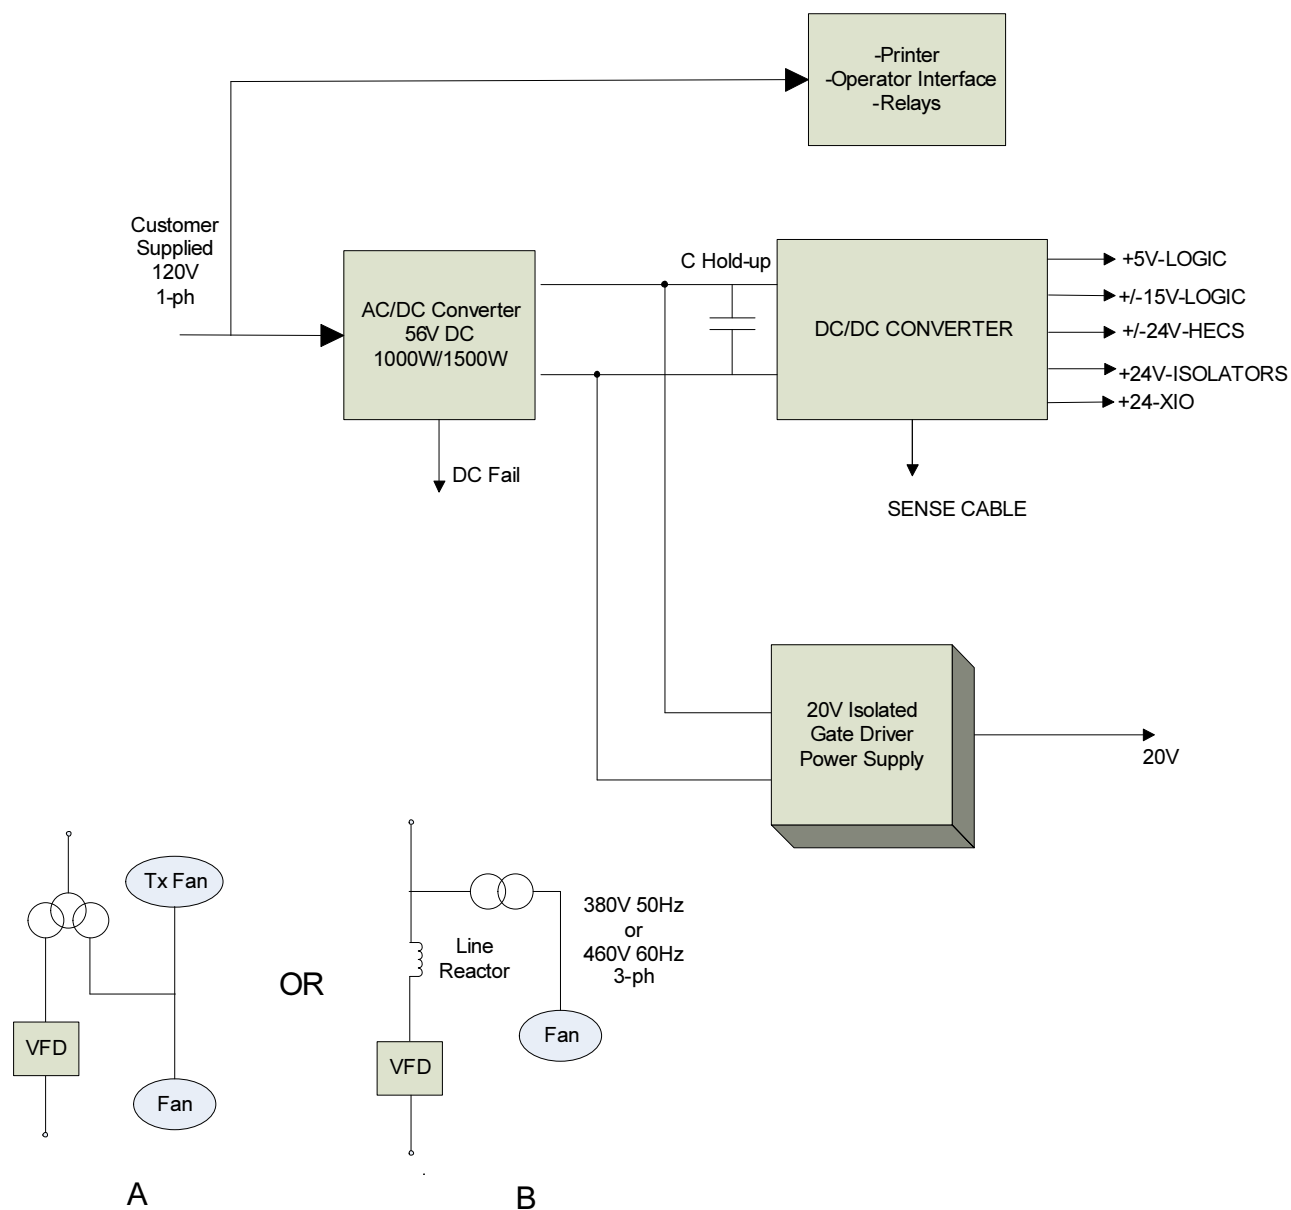

Figure 5.45 – AFE Rectifier with Separate Isolation Transformer (Configuration #2)
Figure 5.45 illustrates the control power distribution for AFE drives with remote transformer/starter (A) or integrated line reactor with remote starter (B).